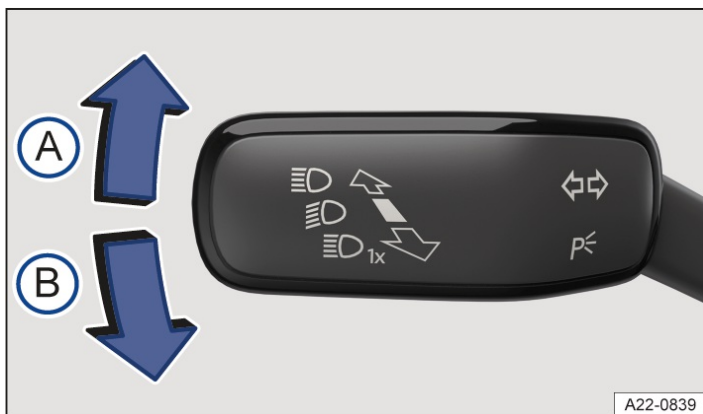

Fig. 1 On the left-hand side of the steering column: turn signal and main beam lever.
2. Move the lever from the centre position to the required position → *Fig. 1*.